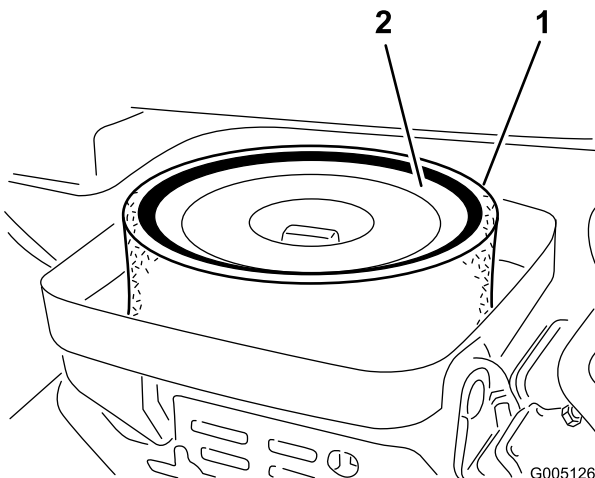

Figure 48
3. If the foam element is dirty, remove it from the paper element (Figure 48). Clean it thoroughly, as follows: